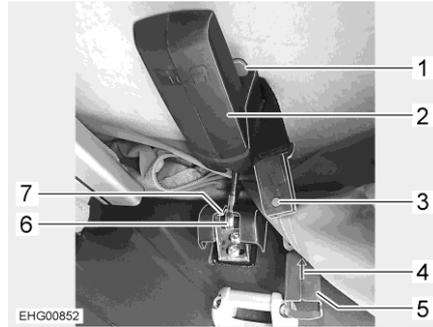

Fig. 35 Locking, elevating roof at the rear (C 530)
- Insert the pin (Fig. 35,6) in the holder (Fig. 35,7).
- Pull the black handle (labelled SCA) (Fig. 35,2) upwards.
- Press the red lever (Fig. 35,1) downwards. This locks the black handle (labelled SCA) (Fig. 35,2).
- Close the snap lock (Fig. 35,5) on both sides. To do this, plug the two parts of the snap lock together and push them over each other in the direction of the arrow (Fig. 35,4).